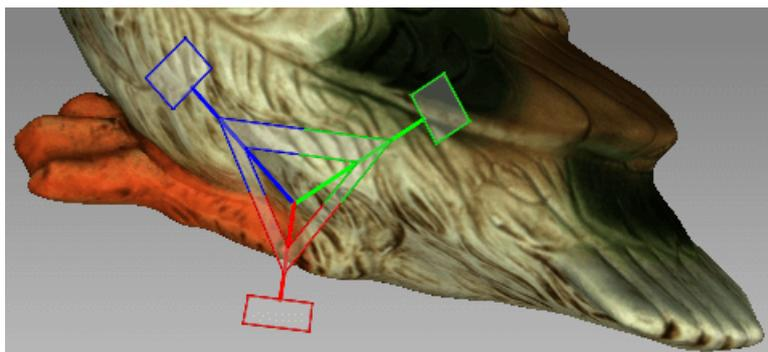

Figure 100: Scaling control
- Drag the origin of the control (Figure 100) or either of its round ends in the *3D View* window.